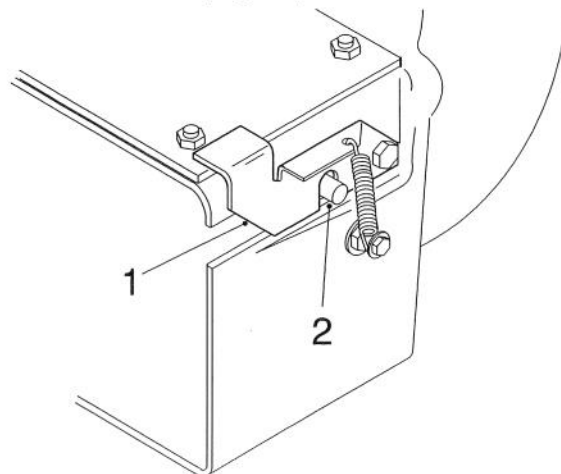

Figure 14
4. With the belt installed, swing the blower toward the mower until the blower latch locks over the pin at the back of the mower (Fig. 14).